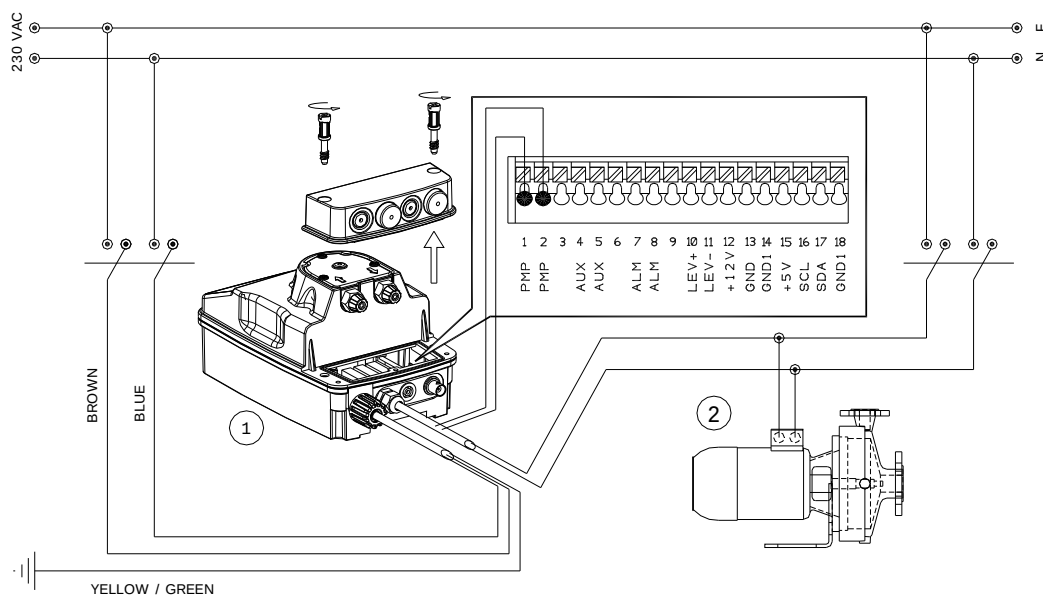
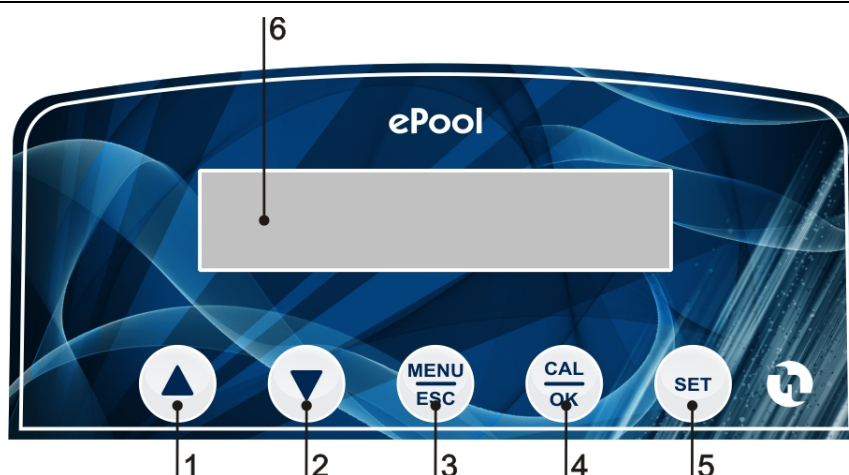
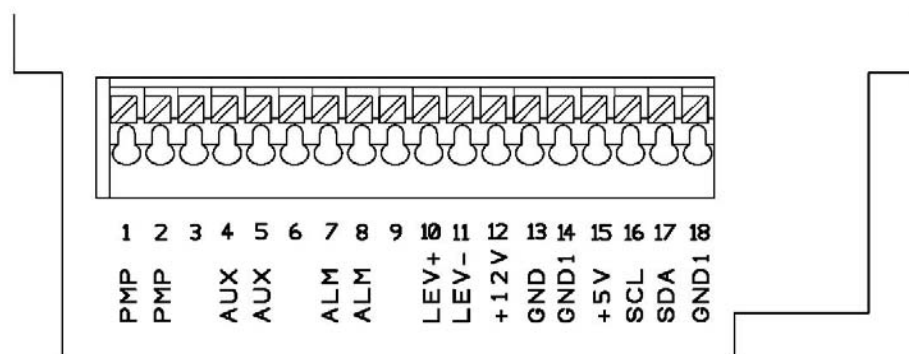

Fig. 2 – Installation and terminals
Fig. 4 – Pannello Comandi
Fig. 5 – Service Connector
Carefully observe the regulations in force in the various countries as regards electrical installations (Fig.2). When the supply cable is devoid of a plug, the equipment should be connected to the supply mains by means of a single-pole circuit breaker having a minimum distance of 3 mm between the contacts. Before accessing any of the electrical parts, make sure that all the supply circuits are open.
Slide the hoses over the nipples, pushing them right home and then fix them with appropriate tube nuts (Fig.4). Before attaching the delivery hose to the plant, prime the peristaltic by going through the sequence shown in fig.5. Try to keep both the suction and discharge hose as straight as possible, avoiding all unnecessary bends. Select the most appropriate injection point on a pipe of the plant to be treated and there fit a 3/8" female steel gas thread connector (similar to BSPm). This connector is not supplied with the pump. Screw the injection valve to the gas connector, inserting a gasket tape as Teflon. Then connect the discharge hose to the conical connector on the injection valve and fix it with the supplied tube nut. The injection valve also acts as no return valve by means of a cylinder sleeve.
Press in the same time arrow up (1) and arrow down (2), (fig. 4).
With the pump in stand-by at the same time press MENU/ESC (3) and CAL/OK (4) (FIG.4).
In figure 5 is shown the scheme of the service connector for the connection of the various services. To the service connector is accessed by removing the protective cover as shown in fig. 2.
- Connectors 1-2 (PMP)= Connection for the recirculation pump. Input at 230V. (Fig.2).